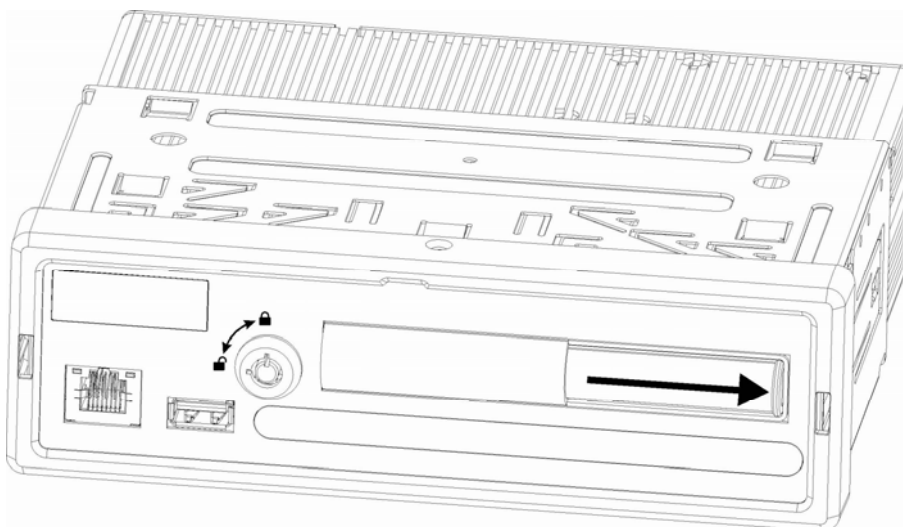

Figure 2-15
4) After you removed the SD card, please push the plastic handspike following the arrowhead in Figure 2-15. Turn the key counter clock wise to lock the SD card.